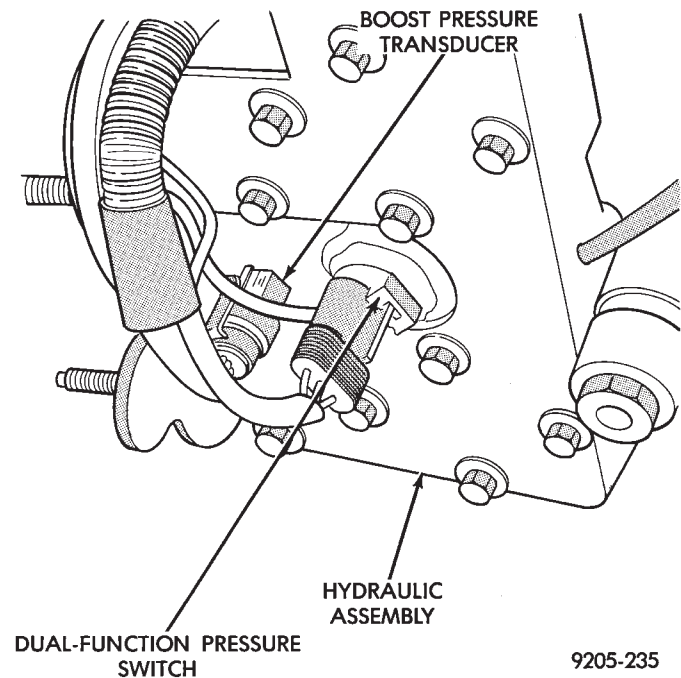

Fig. 3 Dual Function Pressure Switch And Pressure Transducer Wiring
(1) De-pressurize the hydraulic accumulator by pumping the brake pedal a minimum of 40 times. Using the procedure as described in De-Pressurizing Hydraulic Accumulator listed earlier in this section.
(2) Raise vehicle See Hoisting, Group 0.
(3) From under vehicle, disconnect wiring harness connectors from dual function pressure switch and boost pressure transducer (Fig. 3) on bottom of hydraulic assembly.
(3) Connect the wiring harness connectors (Fig. 3) onto the dual function pressure switch and the boost pressure transducer. Be sure the locking tabs on the connectors are fully engaged on the switches.
(4) Lower the vehicle.
(5) Turn the ignition switch to the on position and let the system pressurize. Check for any leaks at the dual function pressure switch.
(6) Fully de-pressurize hydraulic assembly a second time to purge any air out that may have entered hydraulic assembly when switch was removed. Turn the ignition switch to the on position and let the system pressurize again.
(7) Road test vehicle to insure that the brake system is performing correctly.